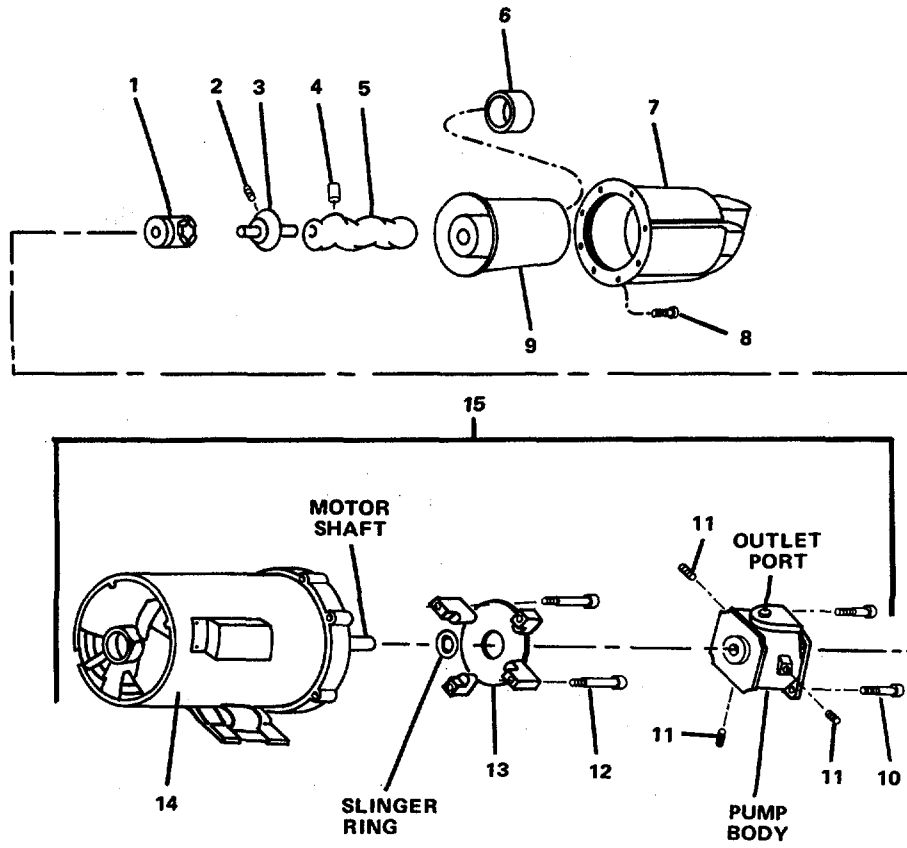

FIGURE 3-17. Motorized Oil Pump.
- (1) Position motorized pump (15, Figure 3-17) on a clean, flat surface.
- (2) Remove eight machine screws (8) securing housing (7) to pump body.
- (3) Separate and remove housing from pump body.
- (4) Slide stator ring (6) and stator (9) off of rotor (5).
- (5) Separate rotor (5) from universal joint (3) by using a punch to remove pin (4). Support rotor when removing pin. Retain pin (4) for assembly.
- (6) Separate universal joint (3) from motor shaft by using a punch through outlet port on pump body to remove pin (2). Retain pin (2) for assembly.
- (7) Slide universal joint off of motor shaft and out of pump body.